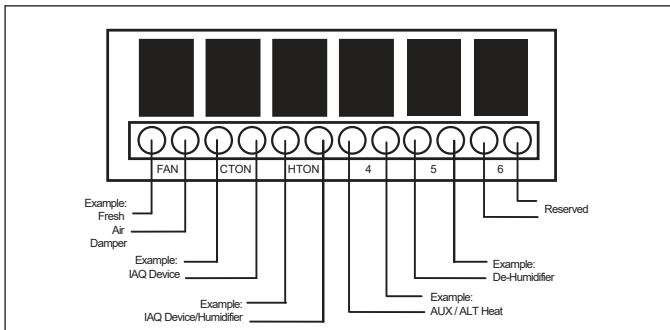

Figure 5. Dry Contact Connection
3. Make appropriate field connections. See Table 1 and Figure 5.